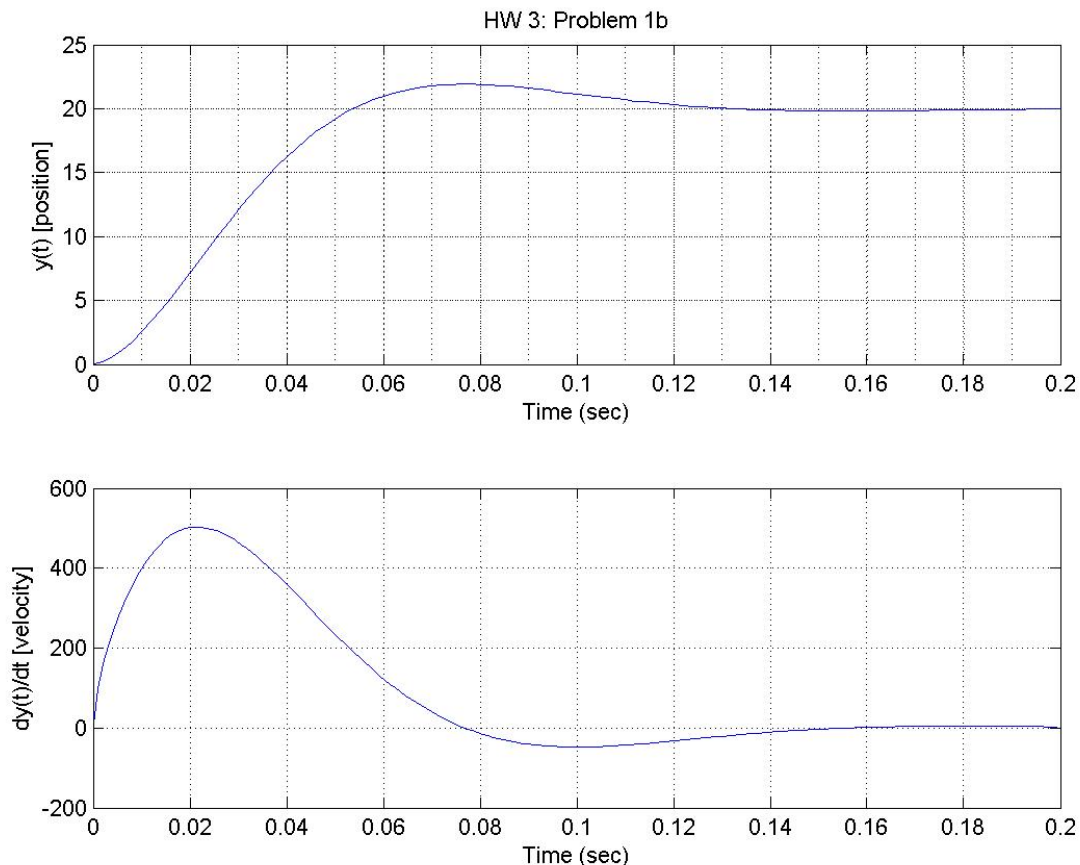

Figure 3.1b - Open-loop system step response. Position (top) and velocity (bottom) are both shown.
b) Repeat all of part **a)** for the system shown in Figure 3.1b. Begin by estimating T and L .